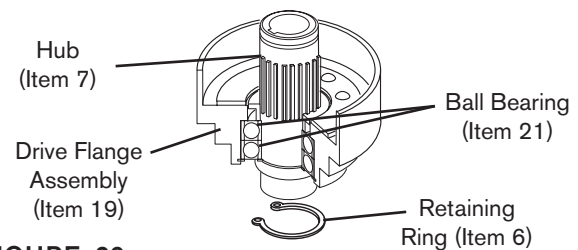

FIGURE 20
1. While fully supporting the inner races of the two Ball Bearings (Item 21), press the Hub (Item 7) into the Drive Flange Assembly (Item 19) (See Figure 20).
2. Reinstall Retaining Ring (Item 6) (See Figure 20).